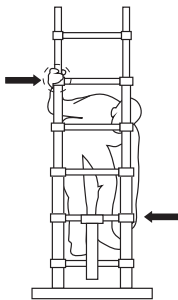

Fig. 5
3. Put your thumbs on the unlocking mechanism on the second step from the bottom (Fig. 5). Depending on the model you are using, push each unlocking mechanism either inwards or upwards for unlocking the ladder (Diagram 3).